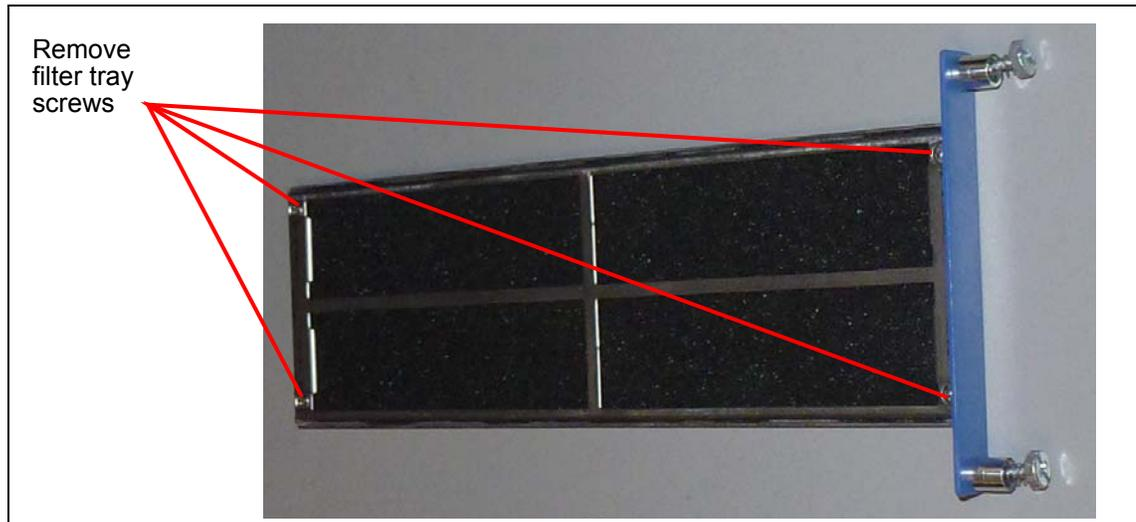

Figure 6.3 - IPB Chassis Air Filter Removal
2. Remove the filter tray screws and remove the air filter from the tray (**Figure 6.3**).